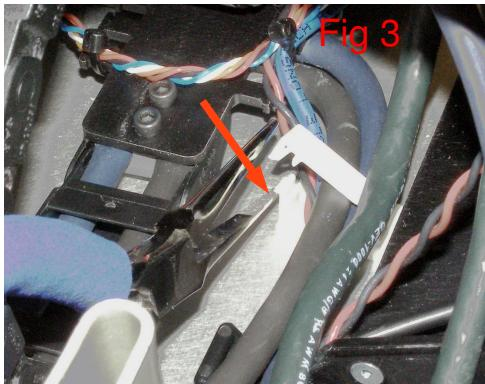

Fig 3
4. Using the Needle Nose pliers, unsnap the White cable clamp next to the Laser Sled echain. (Fig 3)